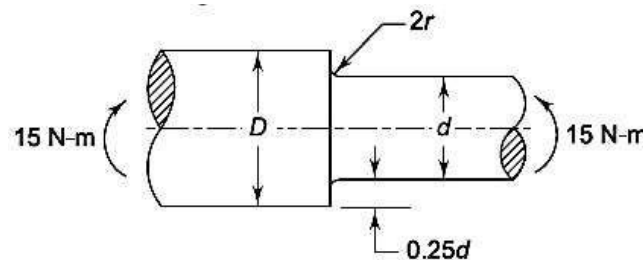

Figure 6.2
2. A round shaft made of a brittle material and subjected to a bending moment of 15 N-m is shown in Fig. 6.2 The stress concentration factor at the fillet is 1.5 and the ultimate tensile strength of the shaft material is 200 N/mm^2 . Determine the diameter d , the magnitude of stress at the fillet and the factor of safety.
- From Fig. 6.2, the larger diameter $D = 1.25d$